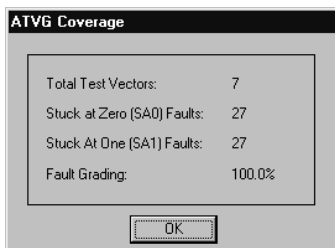

Figure 11 Typical ATVG Coverage dialog box
*ATVG Coverage* reports on the design's test coverage (Figure 11). These statistics may be used as guidelines to improve the design in order to increase test coverage. Of particular interest is the Fault Grading statistic, which indicates the quality of test coverage produced by ATVG.